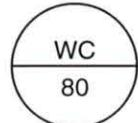

Figure 48. Instrument Tag
5. Determine the measured variable indicated in the instrument tag in figure 48.